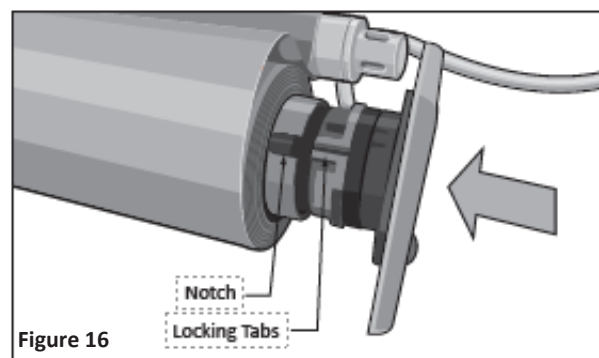

Figure 16
23. Rotate the motor to align the motor locking collar with the notch on the roller bar (see **Figure 16**) and while holding the roller bar push the motor into the roller bar until it is fully seated in the notch.